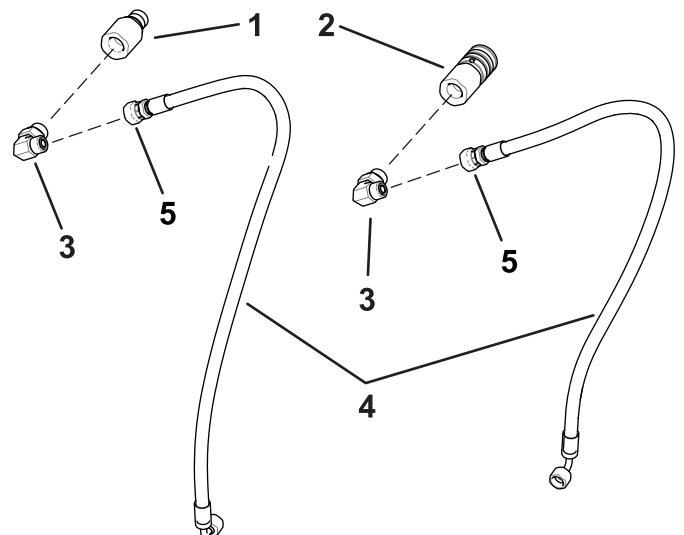

Figure 1
1. Install the 90° elbows to the front hoses (Figure 1).
3. Install the male and female fittings to the 90° elbows (Figure 1). Torque these fittings when installing the hoses.